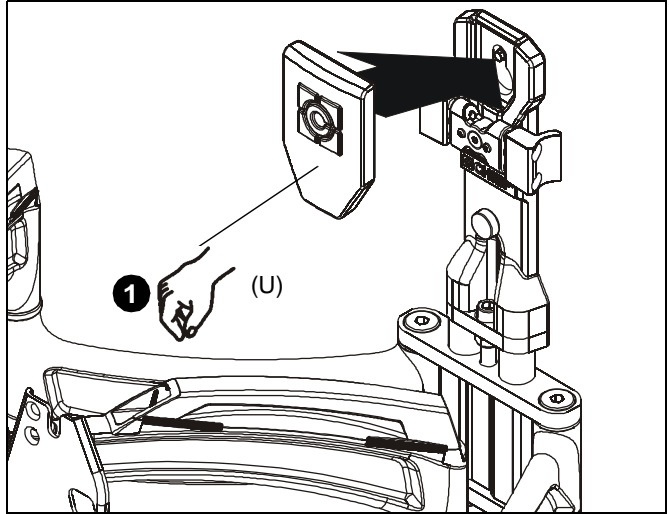

Figure 15
9. Snap lag screw cover (U) onto wall mount over top lag screw. (See Figure 15)